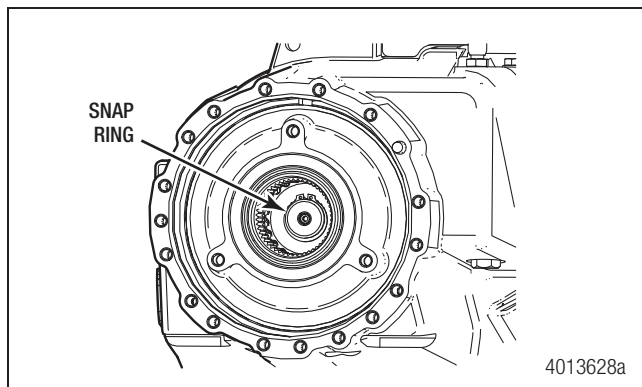

Figure 4.12
14. Rotate the transfer case in the stand to access the front case half. Remove the snap ring from the end of the input shaft. Figure 4.12.